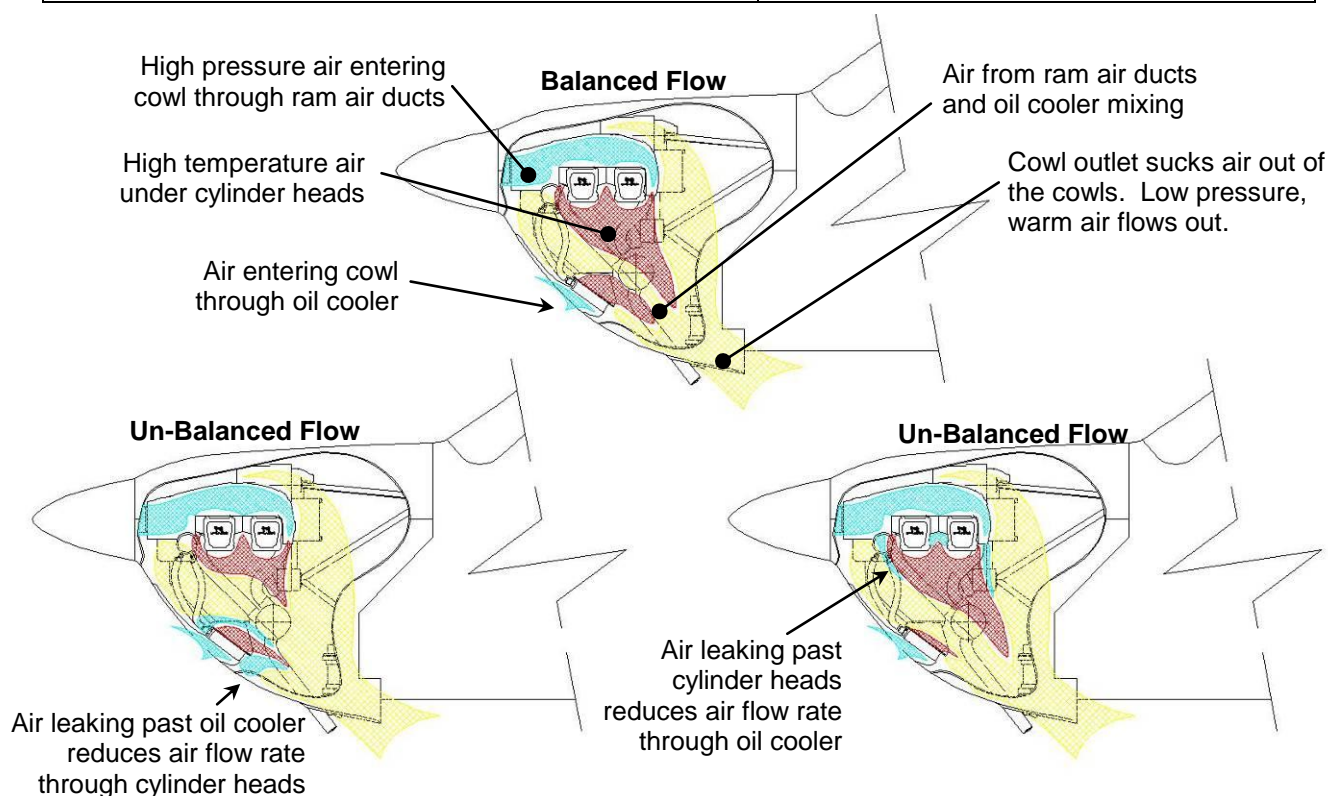

Figure 49. Cowl Airflow (Best Viewed in Colour)
- A generalised picture of the airflow and air temperature is shown in Figure 49.